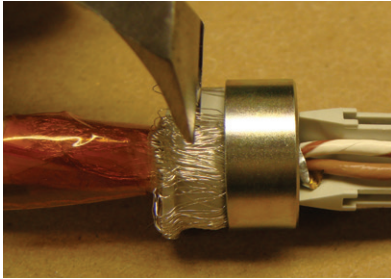

Figure 35: Trimming the braid
22. Using flush cutters, trim the braid wire to just above the lip of the support sleeve (Figures 35 and 36).